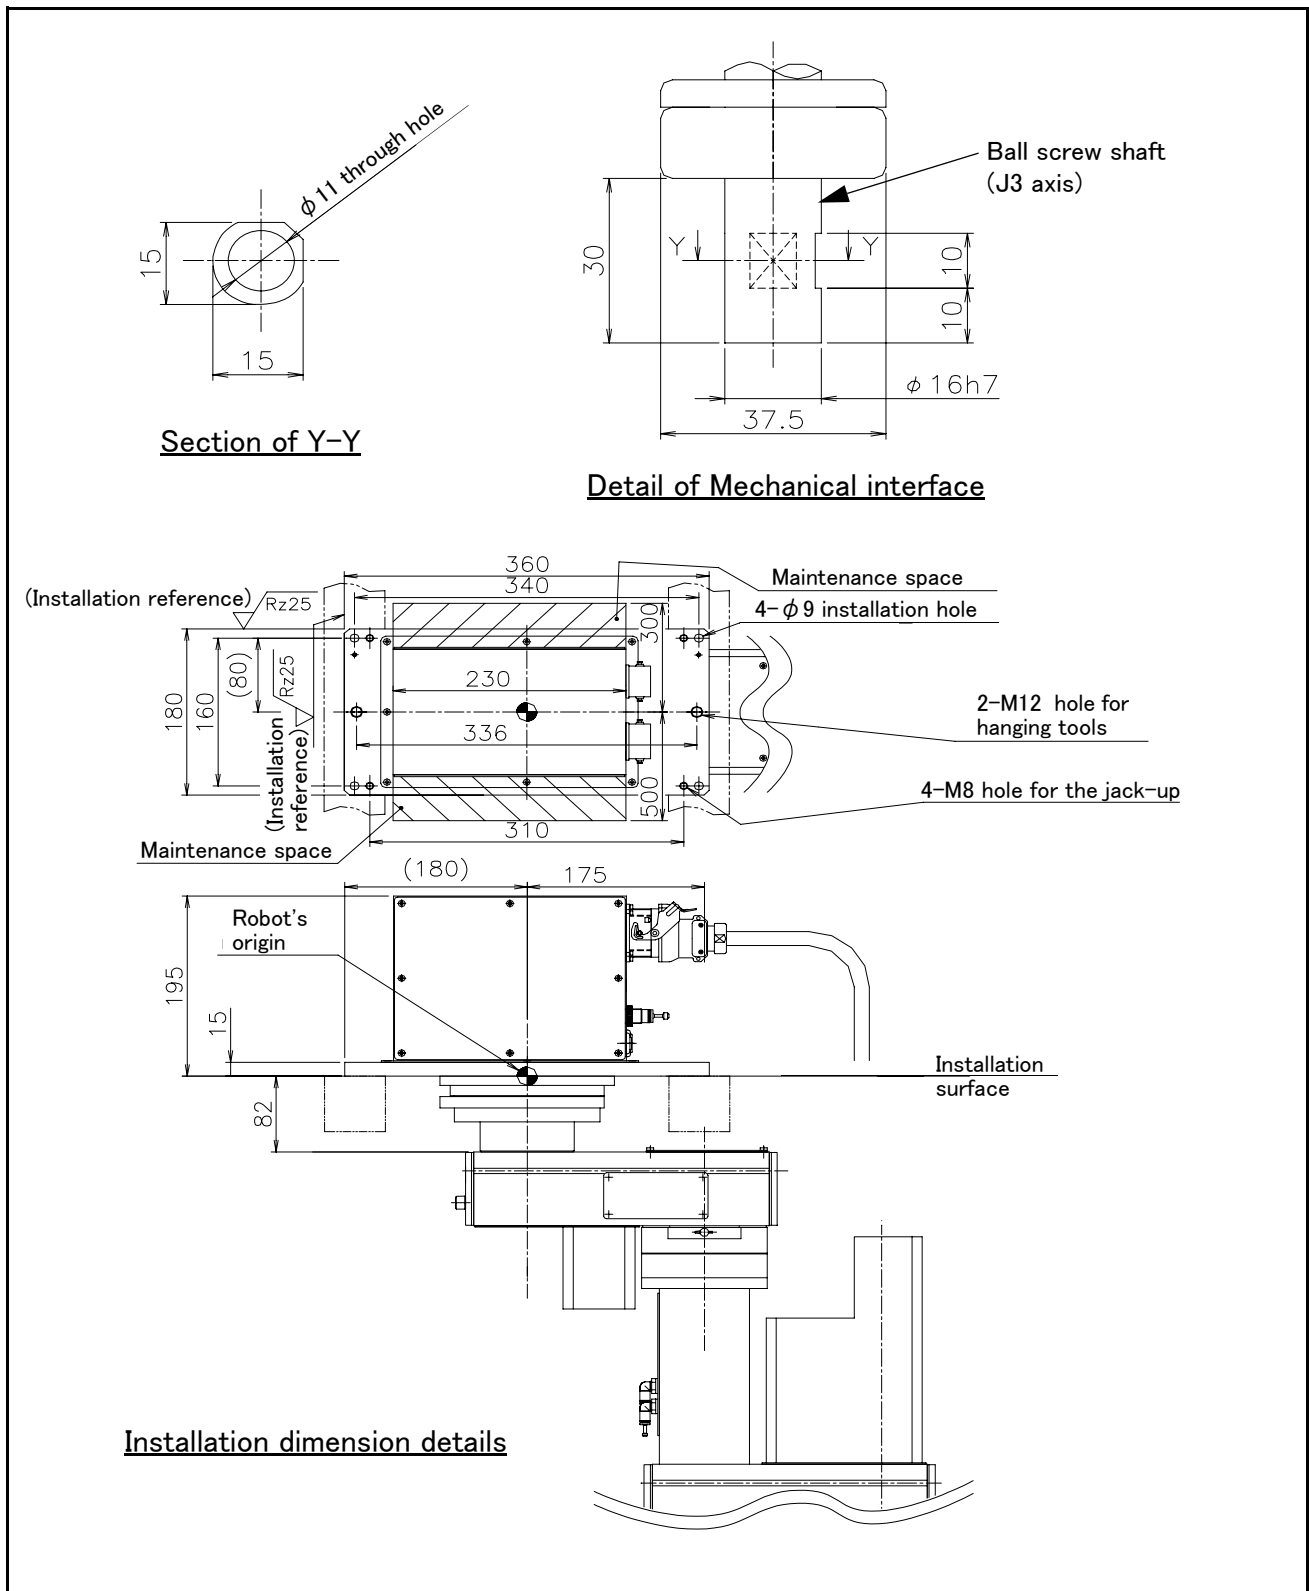

Fig.2-49 : Mechanical interface and Installation surface of RH-3SDHR series (Standard specification)
- Note1) Refer to Fig. 2-49 for the mechanical interface section and installation base section dimensions.
Note1) Refer to Fig. 2-49 for the mechanical interface section and installation base section dimensions.